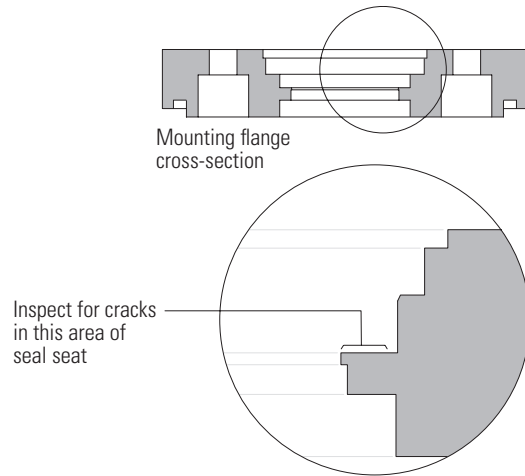

Figure 11
20. Clean mounting flange of all loose metallic chips, particles, dirt or other contamination, including oil. During cleaning, visually check seal seat in mounting flange for scratches or other marks that might damage the pressure seal. Check for cracks in flange that might cause leakage, see Fig. 11.